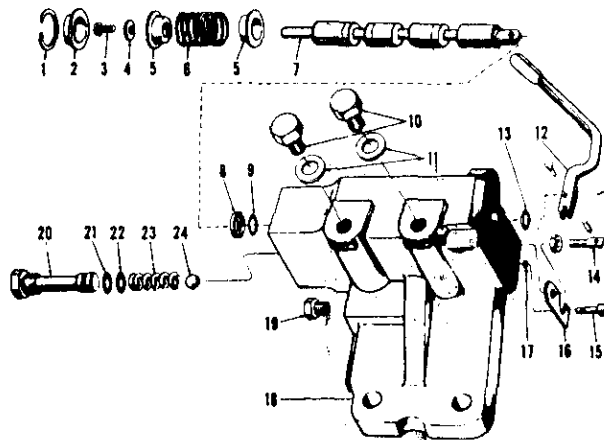
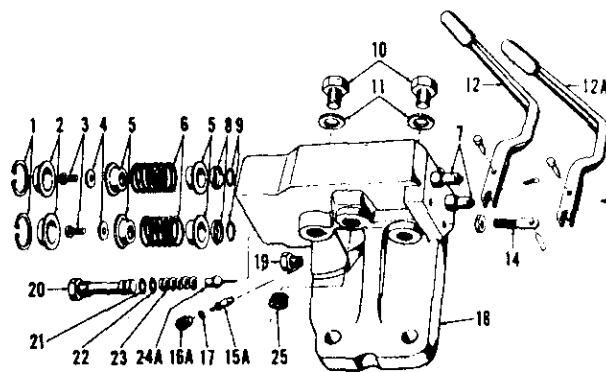

Fig. 425—Exploded view of single spool remote control valve without spool detent mechanism.
Fig. 426—Exploded view of two spool remote control valve without spool detent mechanism. Valve spools (7) are not shown removed; refer to (7—Fig. 425).
Single spool or double spool remote control valves, with or without detents, have been used on the model 2000, 3000 and 4000 tractors. Refer to Fig. 425 for an exploded view of the single spool, no detent valve, and to Fig. 426 for double spool, no detent valve, used prior to production date 5-70 (8-70 double spool).
370. Exploded views of the single spool and double spool remote control valves without spool detent are shown in Figs. 425 and 426. Either valve can be used with single or double acting remote cylinders. On single spool valve, open (turn out) the switch valve (15—Fig. 425) to operate a single acting remote cylinder from "LIFT" port of valve. On the double spool valve, back the Allen head screw (16A—Fig. 426) out two or three turns to operate a single acting cylinder from the "No. 1 LIFT" port. The valve levers must be held in raising or lowering position as the valve spools do not have detents. If valve is held open after cylinder reaches end of stroke, the tractor hydraulic system relief valve will open at approximately 2500 pounds pressure.
373. CONTROL VALVE SPOOLS, CENTERING SPRINGS AND SEALS. Remove the control levers by removing the clevis pins retaining lever to valve spools, then pull levers from pivot pins in the adjusting screws (14—Fig. 425 or 426). Remove the snap rings (1) that retain centering spring caps (2), then push or tap on rear (lever) end of valve spools to remove the valves (7), centering spring (6) assemblies and caps from front end of valve body. **NOTE:** On double spool control valves, be sure to tag the valve spools as they are removed as each valve is a select fit and not interchangeable. Remove screws (3) from ends of valve spools to remove centering springs (6), spring cups (5) and washers (4). Using a slide hammer with small internal pulling attachment (Nuday tool No. 7600-E or equivalent), remove the seal retainers (8) from valve bores. Remove the "O" rings (9 and 13) from valve spool bores.
To reassemble, proceed as follows: Lubricate the control valve spools and insert them into front (centering spring) end of valve body. Push the spools rearward so that rear ends are even with the "O" ring groove in valve body. Lubricate the "O" rings (13—Fig. 426) and using rear ends of valve spools as "back stops," insert the "O" rings in grooves in valve bores. Push the spools on through the "O" rings so that they extend about 3/4-inch from rear of valve body. Lubricate the front "O" rings and push them into bore around the front ends of valves, then install the retainers (8) using a special driver (Nuday tool No. N-651 or equivalent). Reinstall the centering springs and cups, flat washers, retaining screws, caps, snap rings and control valve levers.
375. DOUBLE SPOOL SWITCH VALVE. Using an Allen wrench, remove the set screw (16A—Fig. 426). Then, using needle nose pliers, pull the valve (15A) from valve body; remove